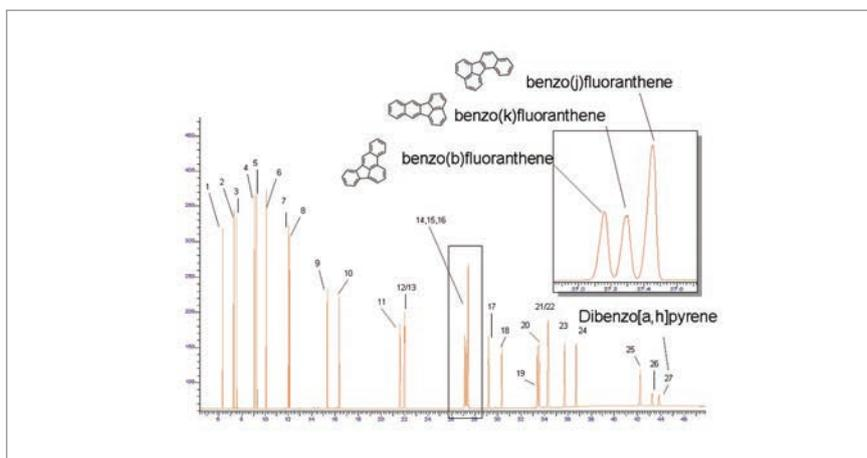

Fig 8. Separations of isobaric fluoranthenes on Rxi-17Sil MS. Full details: bit.ly/15y7k9h
Chromatographic separation is essential. Specific examples are the separation of benzo-fluoranthene isomers and the separation of chrysene-triphenylene. Increasing the Silphenylene content (for example, as in Rxi-17Sil MS, see Figure 8) increases selectivity for PAHs and provides the highest possible signal-to-noise ratio for trace monitoring; however, it does not offer enough selectivity for the separation of triphenylene-chrysene. Separation of triphenylene-chrysene can be obtained on a Rxi-XLB phase, but only at the expense of fluoranthene separation (5).